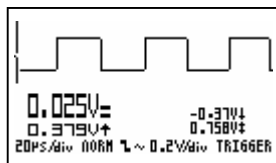

Fig 58
- ‘norm’ = normal triggering (fig. 58)
• **‘norm’** = normale triggering (fig. 58)
• **‘norm’** = synchronisation normale (fig 58)
• **‘norm’** = normale Auslösung (fig 58)